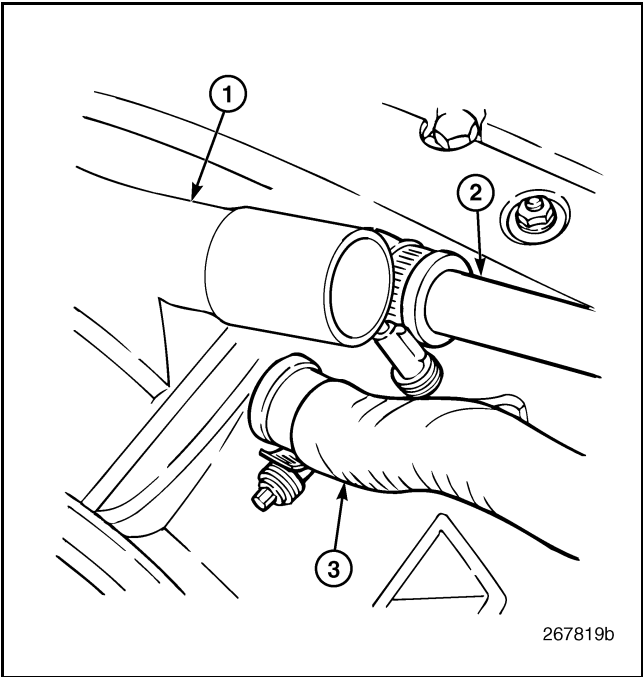

Figure 430 — Coolant Connections
- 2. Install the coolant supply and return hoses at the cooler inlet and outlet tubes. Install the clamps and tighten to specification (Figure 430).